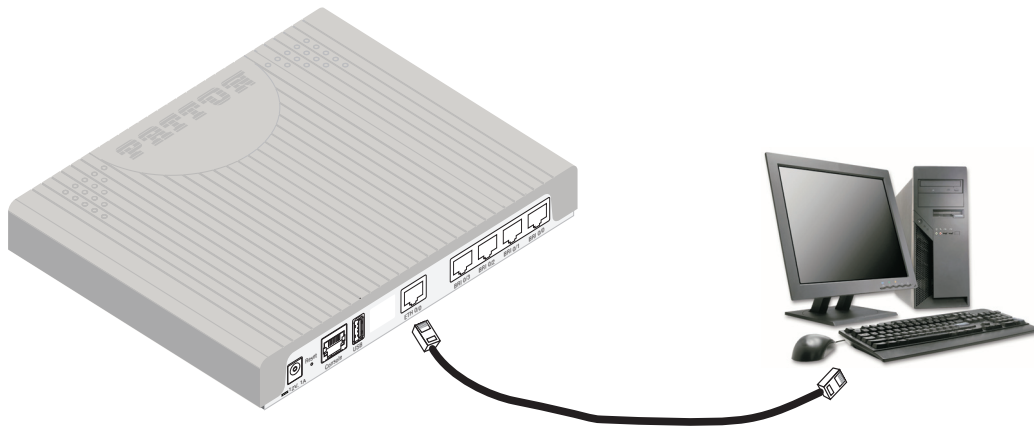

Figure 7. Connecting the SmartNode to your Laptop/ PC
1. The Laptop PC must be configured with a fixed IP in the same range as the SmartNode's IP. (PC's IP; 192.168.1.10 mask 255.255.255.0 for instance). (see figure 7 on page 29).